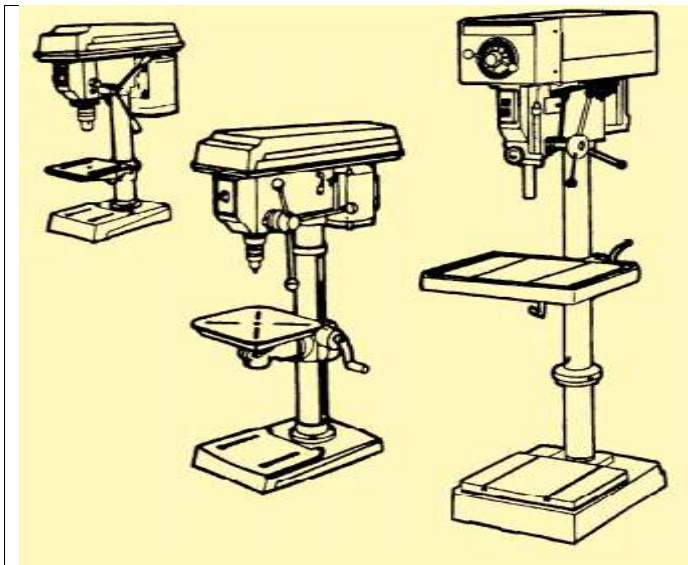

Figure 4-5. Hand-feed drilling machines.
**Hand-Feed:** The hand-feed drilling machines (Figure 4-5) are the simplest and most common type of drilling machines in use today. These drilling machines can be bench or floor mounted. They are driven by an electric motor that turns a drive belt on a motor pulley that connects to the spindle pulley. Hand-feed machines are essentially high-